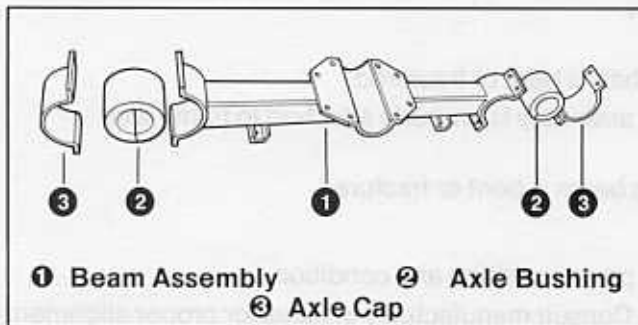

Figure 7 — Rubber Axle Bushing Installation on MOR/ryde Beam Assembly
- d. Remove 1/2" bolts attaching axles to beam assemblies through axle caps. Refer to Figure 7.
- g. Roll axles back in place and utilizing 1/2" nuts and bolts attach axles to beam assemblies through axle caps. Refer to Figure 7.